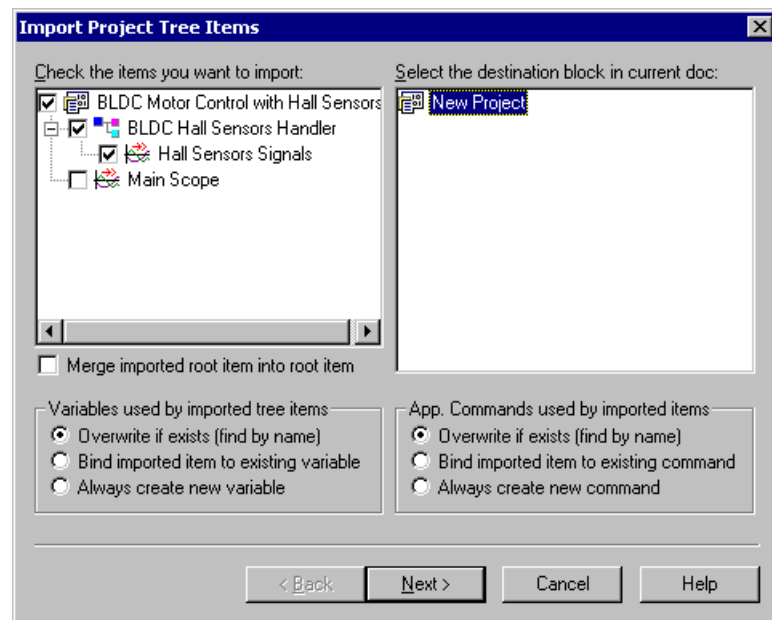

Figure 4-33. Import Project Tree Items
The first dialog of the *Import* procedure is shown in Figure 4-33. After specifying the name of the original project file, you select and check the project tree items you wish to have in your current project. You can also select the target block item under which you want the imported items to be created.
- *Variables* = Put a check mark by each variable you want to import. You don't need to import variables which are referenced from the tree items selected in previous dialog from Figure 4-33; such variables are always unconditionally imported.